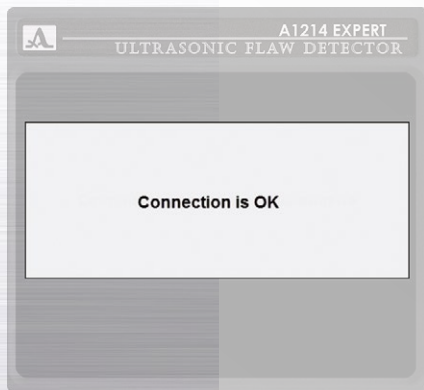

Figure 38
- to confirm the password, press . A confirmation window of device interfacing will be opened (Figure 38).